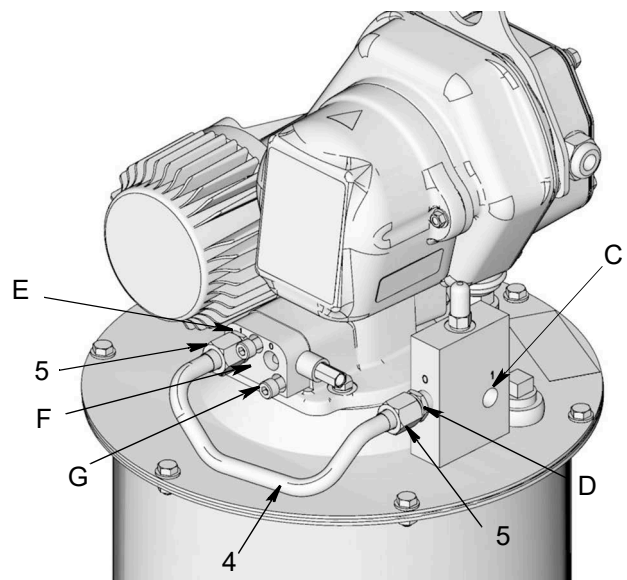

FIG. 15
- Supply tube (4) (marked with the 16V750 aluminum tag) and two connector fittings (5) are used for manifold assemblies. Supply tube (3) can be discarded. It is not used for a manifold installation.
- Install connector fittings (5) to manifold inlet (E) and Auto-Fill Shut Off outlet (D). Wrench tighten each fitting (5) securely.
- Install end of supply tube (4) to manifold inlet (E) first and then install the other end of the supply tube to the Auto-Fill Shut Off outlet (D) and as shown in FIG. 15.
- Install a (user supplied) lubricant supply hose (L) between Auto-Fill Shut Off inlet (C) (FIG. 15 or FIG. 16) and the remote filling station pump (K).
- A pressure relief valve (G) and overflow container (H) (for collecting excess fluid that drains during pressure relief) **must** be installed in an easily acces-